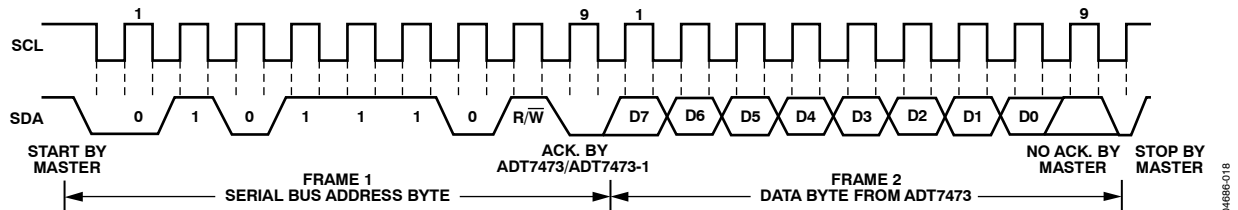

Figure 21. Reading Data from a Previously Selected Register
A read operation is then performed consisting of the serial bus address, R/W bit set to 1, followed by the data byte read from the data register. This is shown in Figure 21.
- If the address pointer register is known to be already at the desired address, data can be read from the corresponding data register without first writing to the address pointer register, as shown in Figure 21.